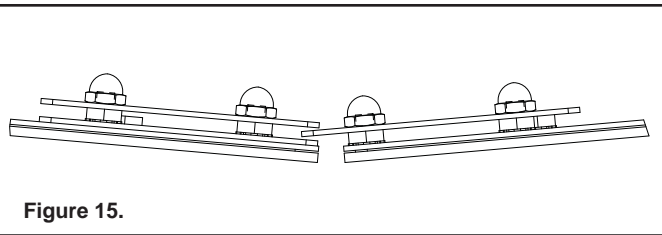

Figure 15.
3. Swing the doors shut, making sure to engage top latches as shown in Figure 15. The doors should now be latched shut.